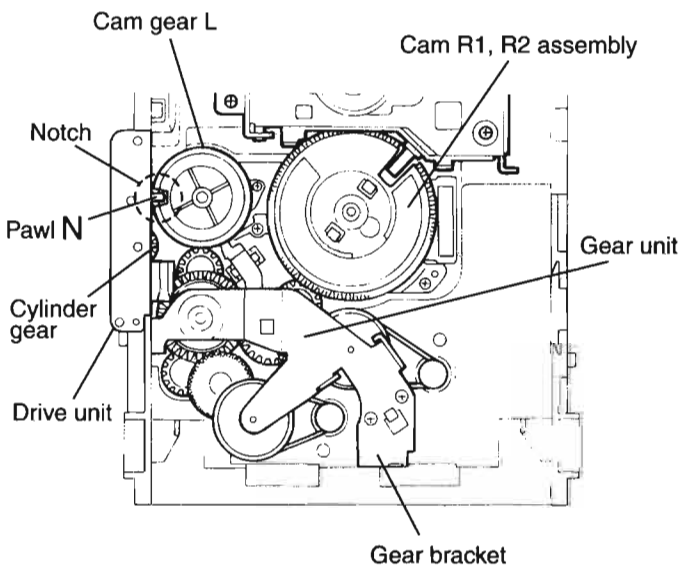

Fig.24
**[Caution]** To reassemble the cylinder gear, etc.with the cam unit (cam gear and cans R1/R2 assembly), gear unit and drive unit, align the position of the pawl "N" on the drive unit to that of the notch on the cam gear L. Then, make sure that the gear unit is engaged by turning the cam gear L (See Fig. 24).